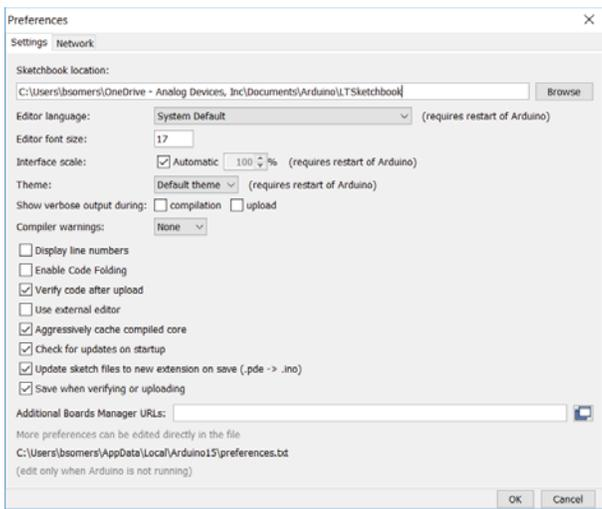
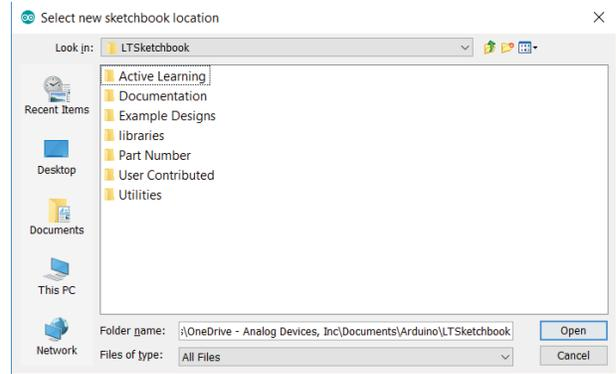
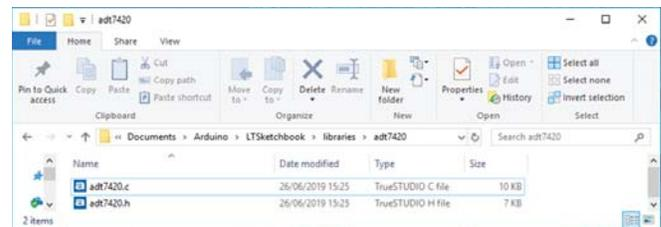

Figure 6. Arduino IDE Preferences Window
Figure 7. LTSketchbook Location
Figure 9. Documents/Arduino/LTSketchbook/libraries/adt7420 Folder
4. To change the Arduino IDE settings to use the **LTSketchbook**, open the Arduino IDE software and navigate to **File > Preferences**, which opens the window shown in Figure 6.
5. In the **Sketchbook location** field shown in Figure 6, click **Browse** and locate the path to the extracted **LTSketchbook.zip** file. The correct file location is shown in the **LTSketchbook** option in the **Look in** dropdown menu and the following seven subdirectories are shown: **Active Learning**, **Documentation**, **Example Designs**, **libraries**, **Part Number**, **User Contributed**, and **Utilities** (see Figure 7).
In the **LTSketchbook/libraries** folder automatically created after Step 3 in the Installing the LTSketchbook section (see Figure 7), create a new folder and name it **adt7420**. Copy and paste the **adt7420.h** and **adt7420.c** files into the newly created **adt7420** folder, as shown in Figure 9.